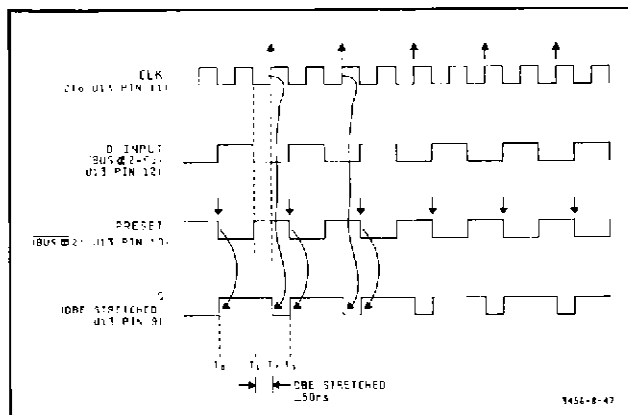

Figure 8-47. DBE Stretcher, Timing Diagram.
8-243. Refer to Figure 8-47 (DBE Stretcher, Timing Diagram) and to Figure 8-50 (Speed Compensating Circuits) for the following discussion. At T_0 time the preset input to U13b (neg. transition) sets the output (Q) of